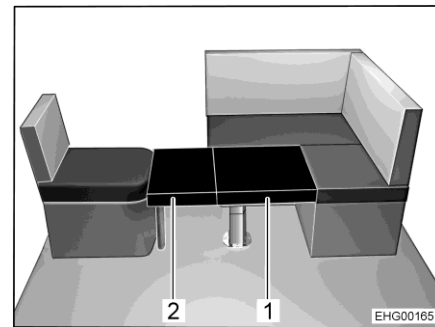
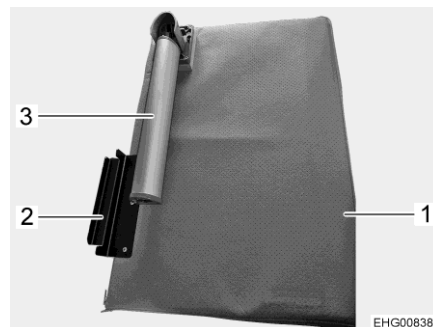

Fig. 121 After conversion
Fig. 122 Additional board
- Unfold the support foot (Fig. 122,3) on the additional board (Fig. 122,1).
- Attach the support bracket (Fig. 122,2) of the additional board to the individual seat and place the additional cushion (Fig. 121,2) on the table top.
- Place the second additional cushion (Fig. 121,1) on the table top.